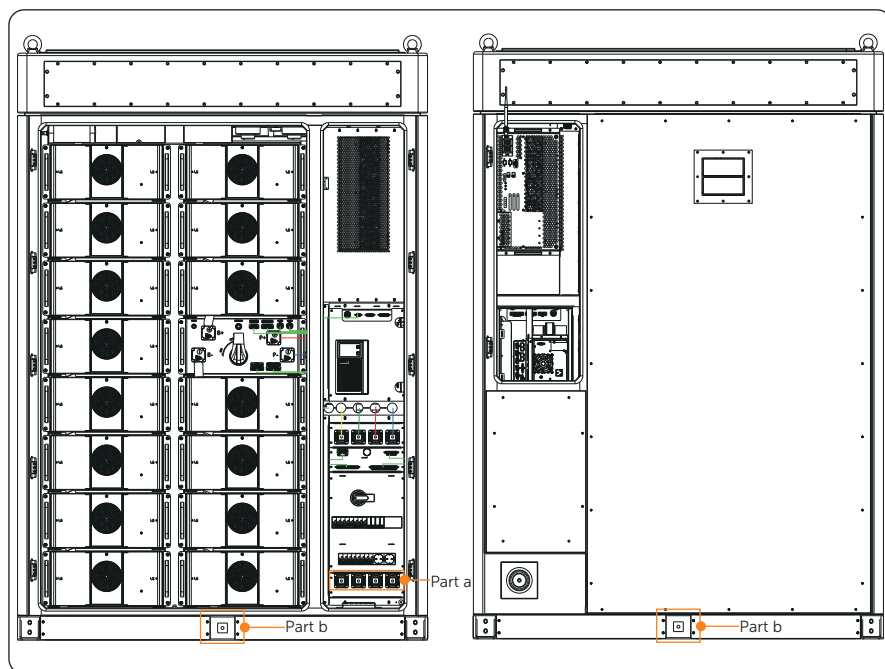

Figure 7-1 Part that needs wiring
- Before wiring, operators are required to learn which parts need to be conducted wiring. For details, please refer to Figure 7-1.
Regarding the grid connection, namely **Part a** in "Figure 7-1 Part that needs wiring", please strictly follow the steps below.
Regarding the grounding plate connection, namely **Part b** in "Figure 7-1 Part that needs wiring", either connection area is available, please strictly follow the steps below.